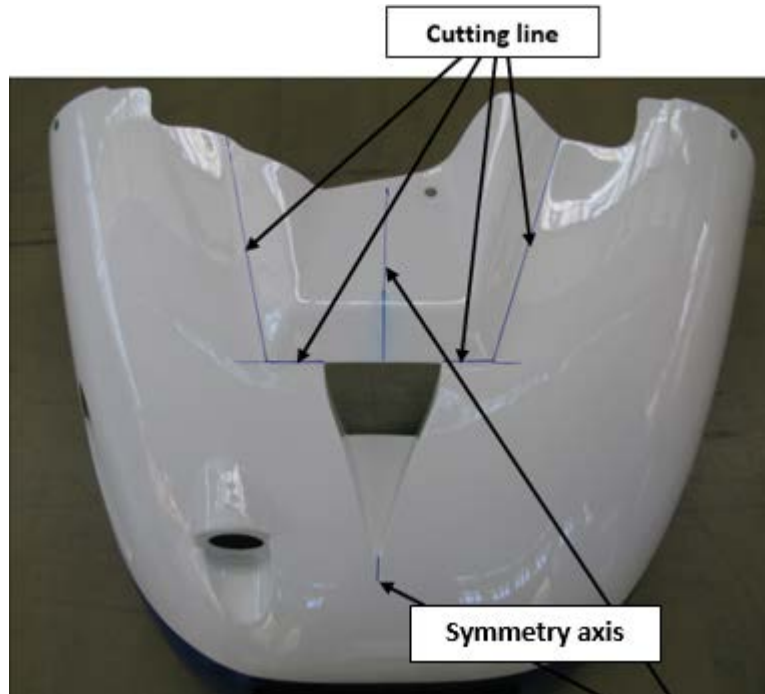

Figure 7: Engine lower cowling with the original cooling exhaust
5. Cut off the original cooling exhaust from the engine lower cowling in such a way, that only that part of the original cooling exhaust exceeding the engine lower cowling profile is removed (see Fig. 7). Mark the symmetry axis on the outer surface of the cowling and on the nose landing gear (see Fig. 7, 8, 9). The work should be performed by two persons in order to secure that the engine lower cowling is not damaged due to its reduced stiffness after removal of the original cooling exhaust.